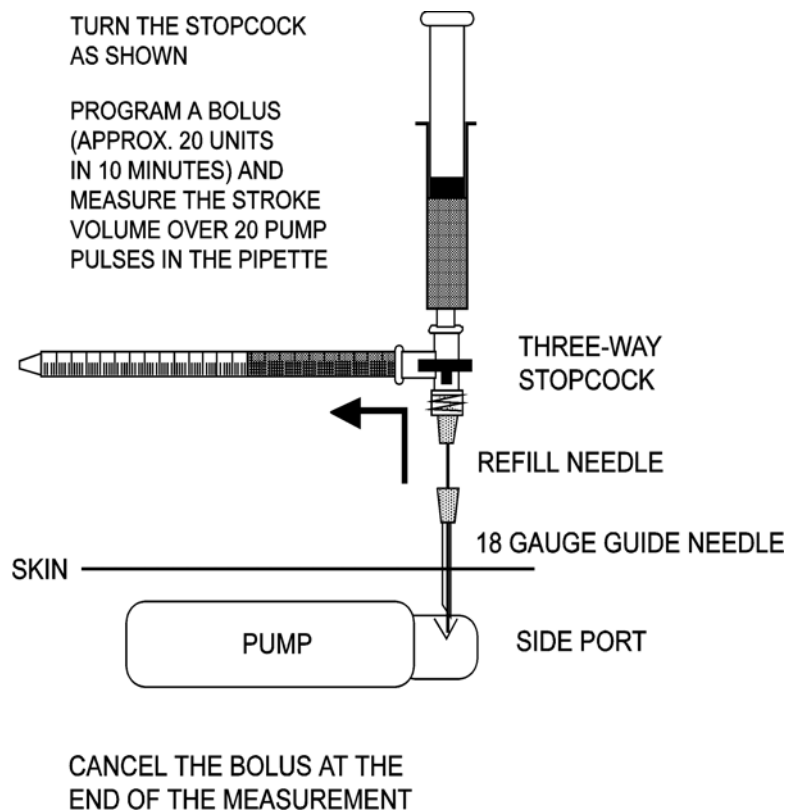

Figure 19: Stroke volume measurement
4. Turn the stopcock as shown in Figure 19.
7. Turn the stopcock back to the position shown in Figure 19 to close. Remove the apparatus.